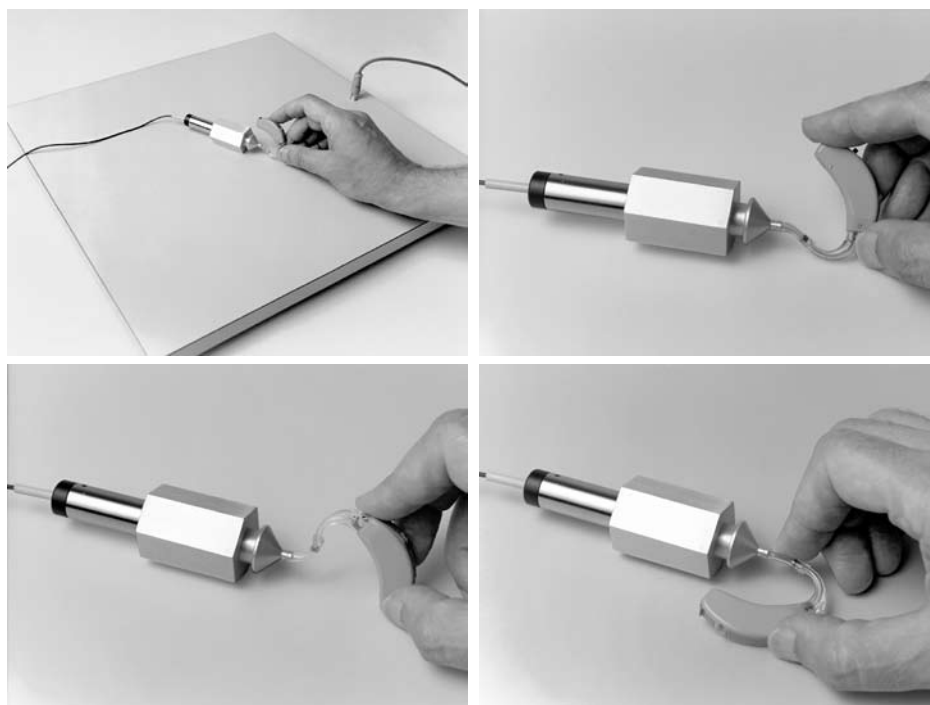

Figure 3.8.8A—Orienting hearing aid for maximum output
6. Orient the hearing aid at the center of the telecoil board for maximum output. Normally this will be when the hearing aid is positioned vertically. See Figure 3.8.8A.